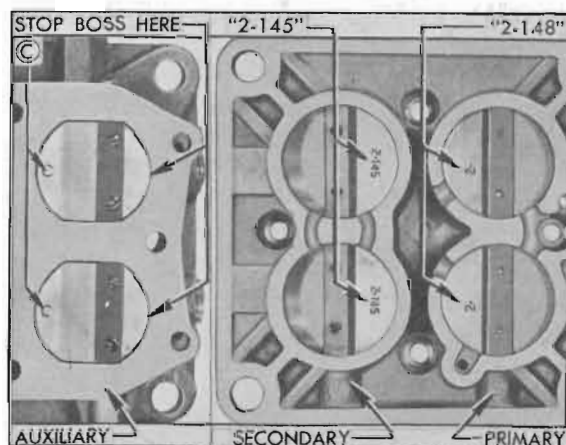

Figure 3-52—Installation of Throttle Valves.
2. Place secondary throttle shaft in body flange and install valves with *new* screws. Stamped numbers on valves must be downward and toward middle of flange. Shift the valves as required to provide the closest possible fit in barrels in closed position, then tighten screws securely. See figure 3-52: Support screw heads on suitable steel block and stake opposite ends of screws.
3. Place auxiliary throttle shaft in body flange and install auxiliary valves on shaft with *new* screws. The circled "C" marks must be toward top of flange. Position the valves so that clearances along the sides are fairly uniform, and so that the short ends have good bearing on stop bosses in barrels. See figure 3-52. Tighten screws securely, support screw heads on suitable steel block and stake opposite ends.
5. Install throttle valves on shaft with *new* screws, placing the stamped number on valves downward and toward middle of flange. Back off throttle lever adjustment screw, fully close and center both valves in barrels of body flange, then hold valves firmly while tightening screws. See figure 3-52.